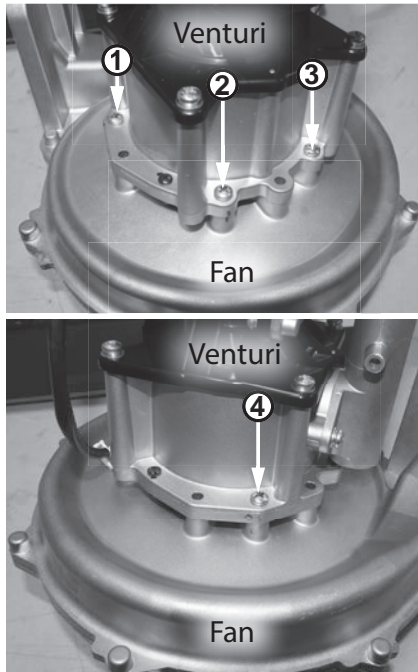

Figure 100 - Locate venturi and fan screws
- 13** Locate the large four screws securing the venturi to the fan. Figure 100 shows venturi facing upright for ease of removing screws.